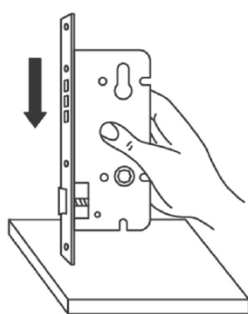

Fig. 1
- 1° - Turn the lock up-side-down in the vertical position; latch at the bottom (fig. 1).